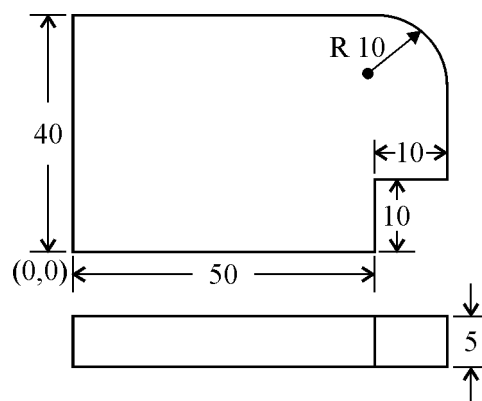

Fig. 1
- (b) Prepare a program to machine a workpiece shown in figure 1 on CNC milling. Assume suitable data.